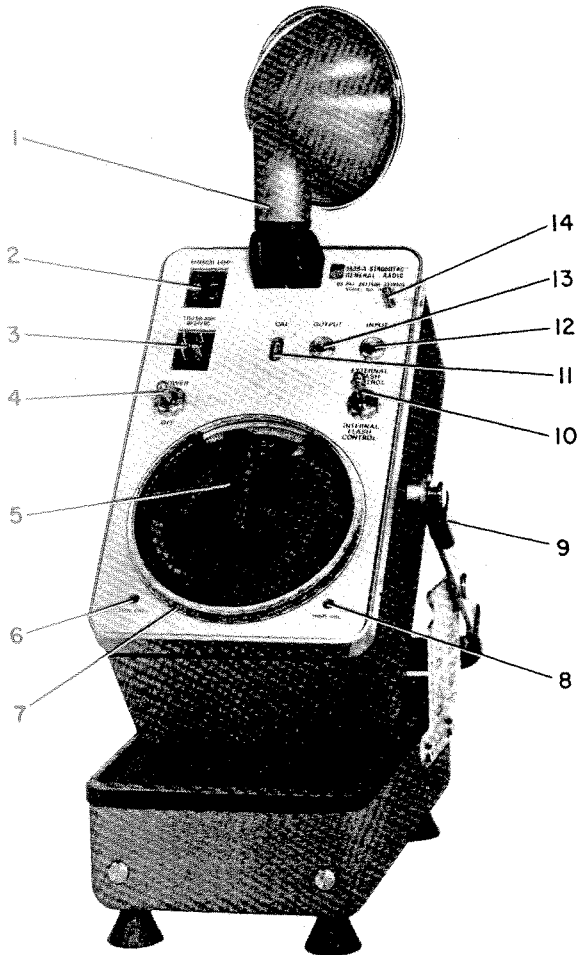
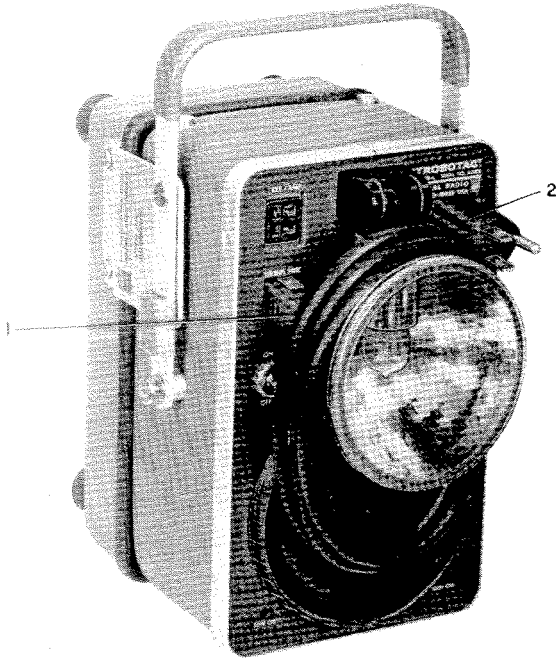

Figure 1-3. The front panel of the stroboscope, showing the controls and connectors.
Figure 2-1. Method of storing the ac power cable when the instrument is not in use.
All controls and connectors are located on the front panel of the instrument (see Figure 1-3). The type and function of each are given in Table 1-1.
- b. Unlock the case by sliding the two gray latch blocks, 9, Figure 1-3, (one on each side of the case) away from the handle. (It may be necessary to push down on the top of the instrument to release the latch blocks).
- c. Push the 4-prong socket (1, Figure 2-1) at one end of the ac power cable onto the panel power plug (3, Figure 1-3) and wind the cable in a counterclockwise direction around the range-switch bar knob and the reflector.
d. To secure the cable end, slide the 3-wire plug (2, Figure 2-1) onto the 1/2-inch pin (14, Figure 1-3) on the panel.
e. To complete the closing of the case, push down slightly on the handle of the case with one hand, and with the other swing the instrument so that the panel is facing down. Lower the instrument onto the rubber gasket by slowly releasing the handle. Apply light pressure on the top of the case and slide the two gray latch blocks (9, Figure 1-3) toward the handle to lock the case.
The stroboscope will also operate on 24 volts dc. The Type 1538-P3 Battery and Charger (Figure 2-3) is recommended for this type of operation (see paragraph 2.3.3). The dc power also is applied at the 4-prong plug (3, Figure 1-3) on the panel, and is controlled by the ON-OFF, POWER switch (4, Figure 1-3).